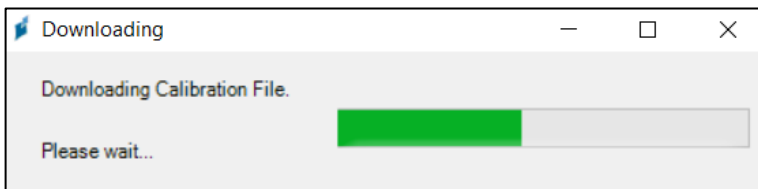

Figure 23. The calibration file download window.
- A pop-up window appears showing the progress of the calibration file download. Wait for the download to complete. The “Downloading” window will automatically close when it is done. Refer to Figure 23 below.